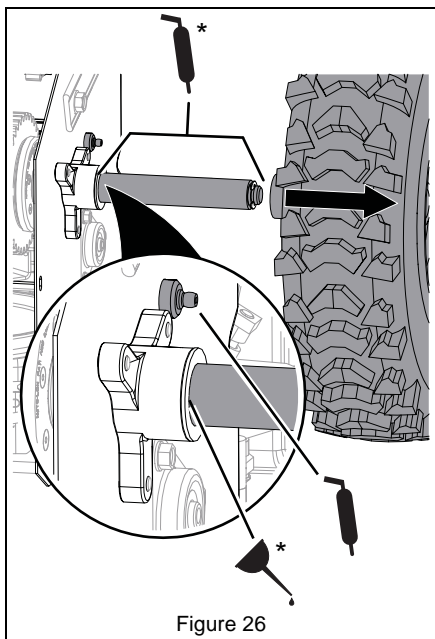

Figure 26
2. Lubricate as shown in Figure 25 and Figure 26.